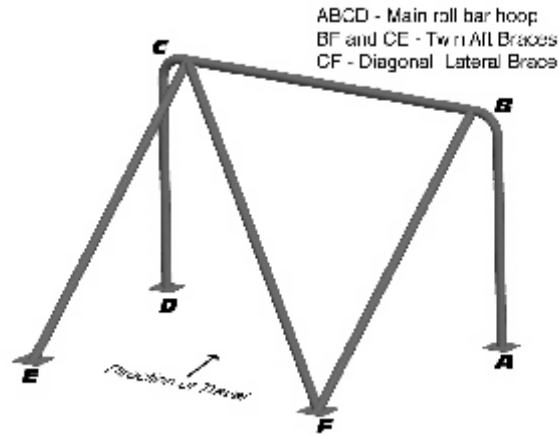

FIGURE 3
- B. All welding must be of the roll bar hoop be such that the minimum outside width measured at a point four (4) inches below the uppermost point is twelve (12) inches. Whenever possible the roll bar hoop should start from the floor of the car and, in the case of tube frame construction, be attached to the chassis tubes by means of gussets or sheet metal webs in order to distribute the loads.
- A. Roll bar hoops must have two (2) fore/aft braces with tubing of dimensions at least equal to that required for the main hoop itself. Diagonal lateral bracing of equal dimension tubing must be installed to prevent lateral distortion of the hoop. (In most cases, a lateral brace from the bottom corner of the hoop on the side to the top corner of the hoop on the other side is sufficient). The following alternatives are permitted. Although installing the diagonal lateral brace in the main hoop is the strongest (and hence most preferable) alternative, there may be instances where such an installation is not practical. In such situations, the installation of the diagonal brace as shown in Figure 3 will be acceptable.